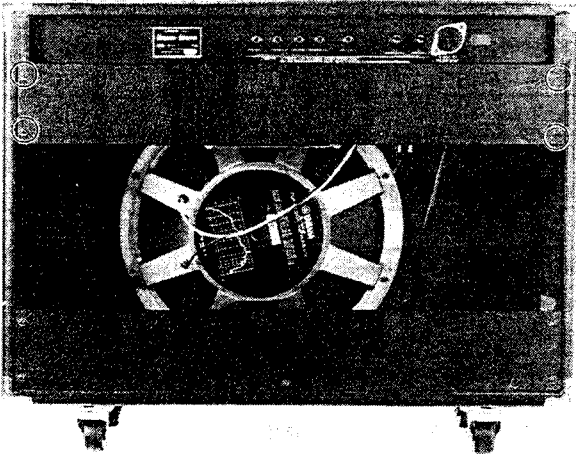

Figure 1
- 1. Remove the 4 screws securing the rear cover, as shown in Figure 1.